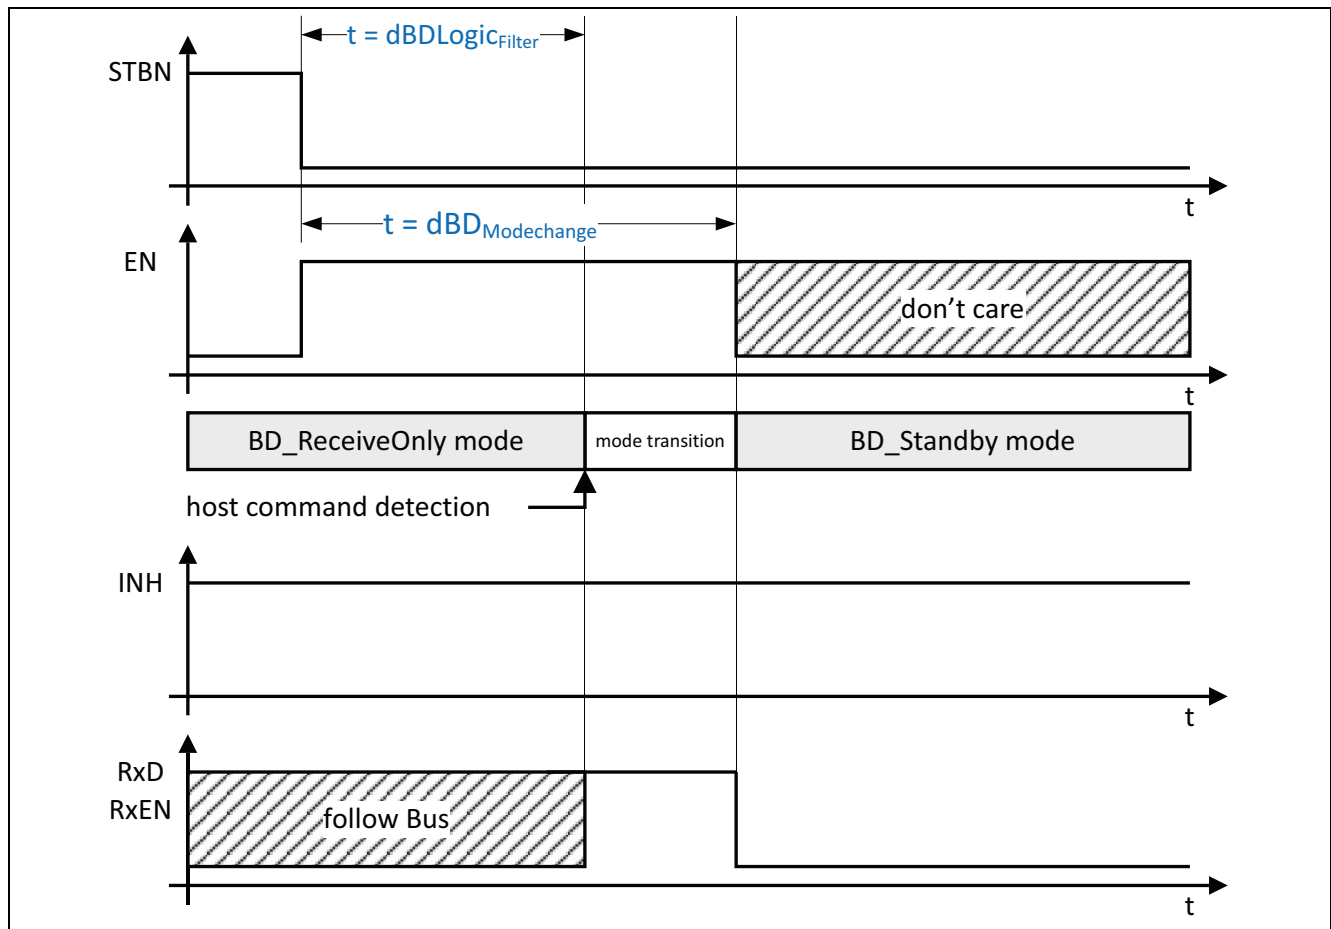

Figure 28 Changing over to BD_Standby, with an active wake-up flag
10) The BD_GoToSleep command cannot be executed while the wake-up flag is active (see Figure 28). The TLE9221SX changes over directly to BD_StandBy mode.
Applying the BD_GoToSleep host command to the TLE9221SX, while the wake-up flag is active, changes the operating mode directly to BD_Standby mode. The RxD and RxEN outputs are set to "low" and indicate a previous wake-up event (see Figure 28 and Table 14).